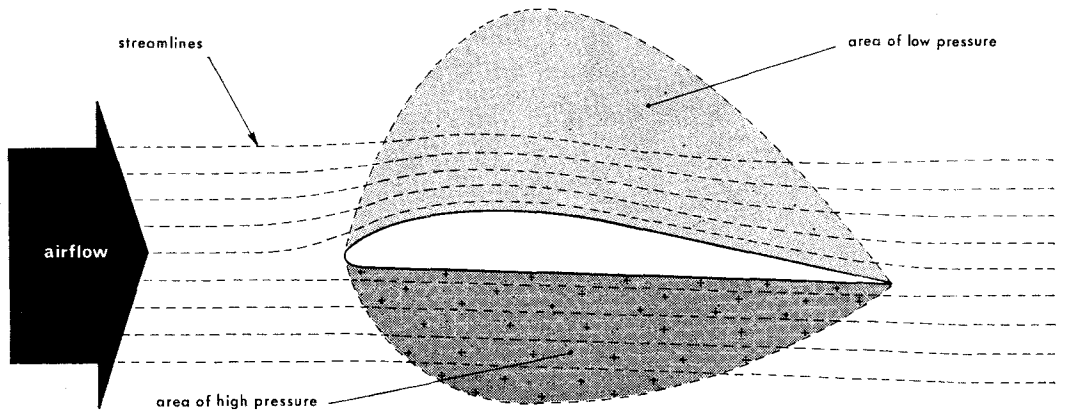
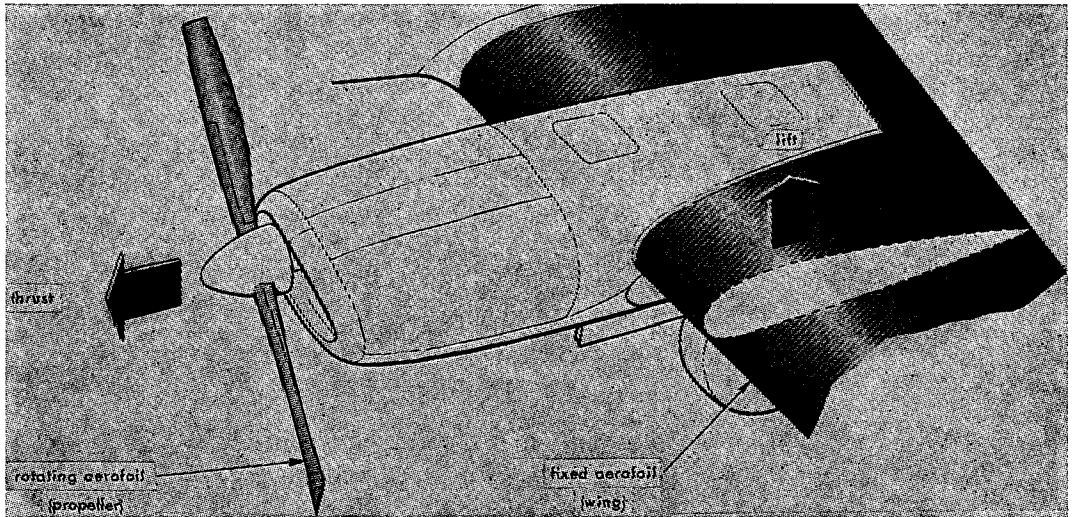

Fig 3 Streamlines around aerofoil
Fig 4 Lift and thrust
4. When an aerofoil shape moves through the air it disturbs the air which then flows over the aerofoil in a special way (Fig 3).
The streamlines in Fig 3 show how the air flows around an aerofoil shape and how the pressure is lower on the curved surface and higher on the flat surface. The streamlines in front show the pattern of airflow before it is disturbed by the aerofoil. It is the *pressure difference* across the aerofoil that provides the useful force lift, produced by the wings of an aircraft. The propeller generates the same force, but because the propeller is mounted vertically the force acts forwards along the centre line of the aircraft and so is called 'thrust' (Fig 4).